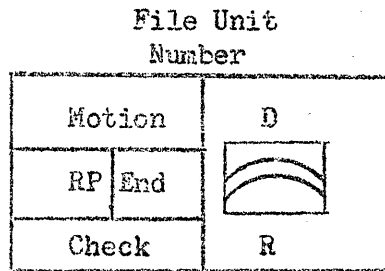

Figure 7
1. DEMAND-RELEASE Switches - Along the top of the Console are switches and display lights which correspond to the various Magnetic File Units (see Figure 7). Each switch corresponds to a particular Magnetic File Unit and is referred to as the DEMAND-RELEASE switch. In the DEMAND position, the Central Processor has absolute control over the designated Magnetic File Unit regardless of any subsequent attempt by peripheral equipment to use it. If the switch is in the RELEASE position, any peripheral unit can use the MFU. Changing the switch position from RELEASE to DEMAND will not necessarily give control to the Central Processor.